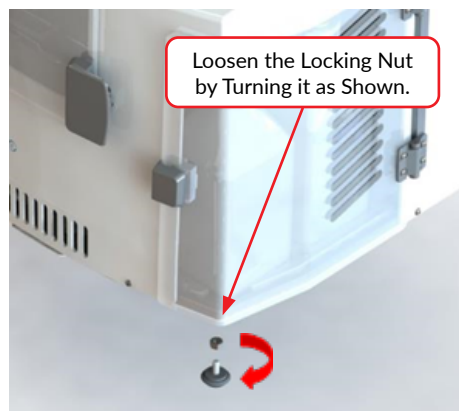

Figure 2.9 ME220 Leg Locking Nut
- Use the included wrench, if necessary, to loosen the locking nut on each right side leg as shown in **Figure 2.9**. The lock nuts are shipped finger-tight only.